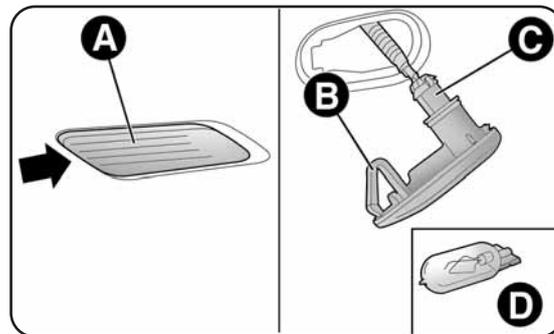

fig. 19
- work on the lens cover A-fig. 19 to compress catch B, then pull the unit outwards;